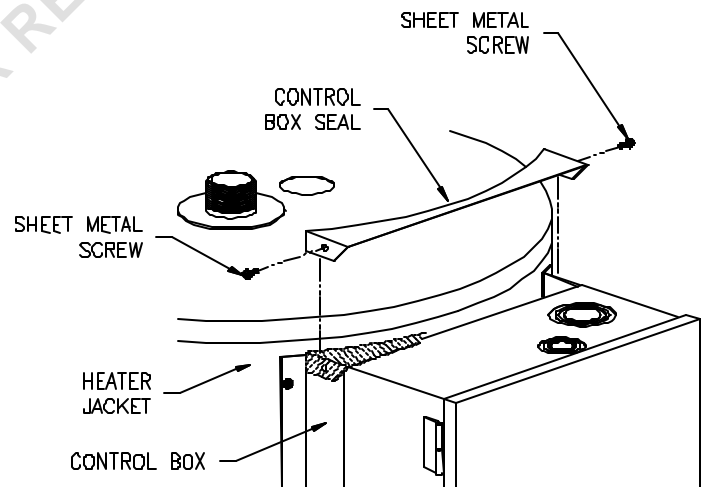

Figure 1
1. Place control box seal on top of control box sealing gap between control box and water heater jacket. Attach control box seal to control box using two (2) sheet metal screws (**see Figure 1**).